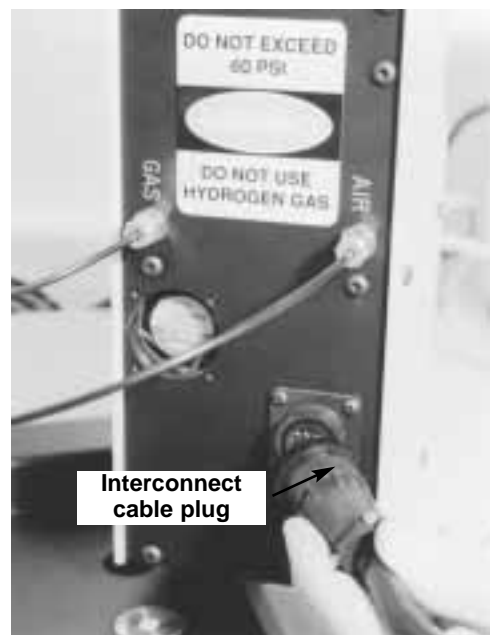

Fig 3.17 Installation of the interconnect cable (782010) on the rear of the S.P.T.D. unit.
18. Plug the interconnect cable (782010) into the appropriate plug on the back of the desorption unit. The cable is reversible so either end can be plugged into the unit. See **Figure 3.17**.